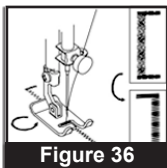

Figure 36
5. Select #12 on the pattern stitch knob. Turn switch ON. Sew about 3-4 stitches at low speed. OFF. (Figure 36)